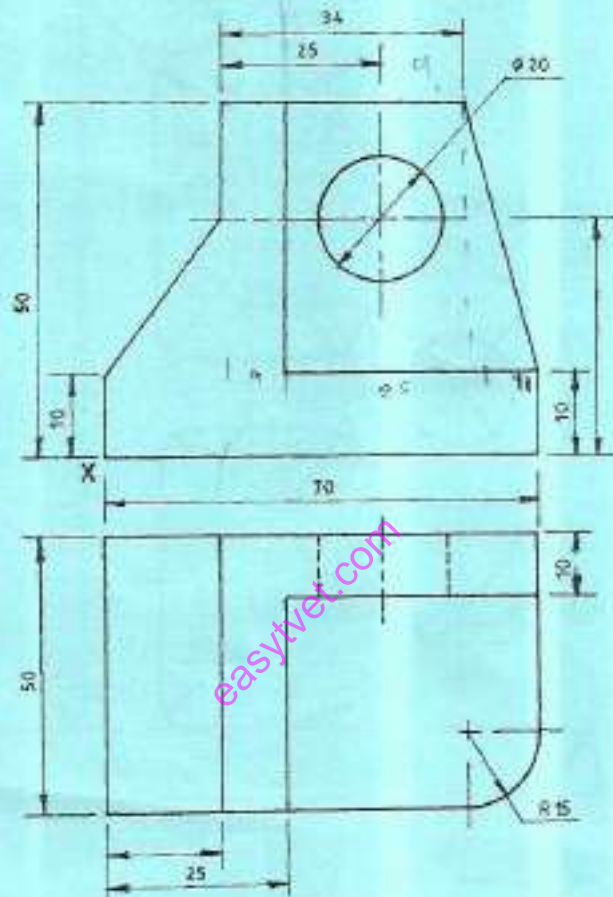

Fig. 4
5. Figure 4 shows two views of a bracket. Use view ports to extract the following views in conceptual visual style.